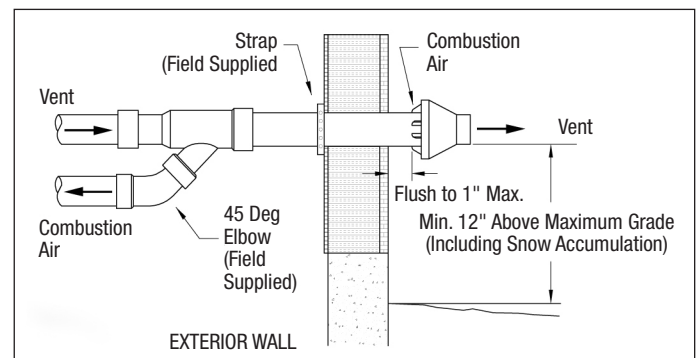
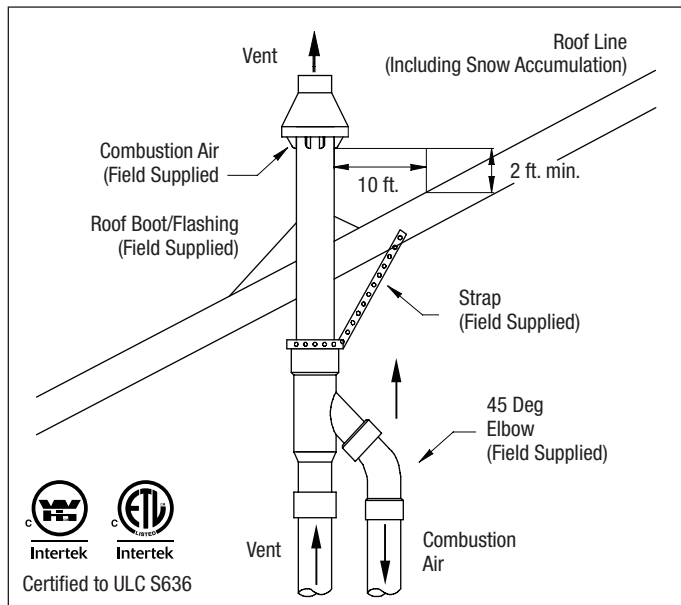

Figure 1.
Figure 2.
- Determine the best location for the termination kit. See Figures 1 and 2 for horizontal and vertical vent termination. For side (horizontal) termination, the following should be considered:
- Secure the assembly to the structure as shown in Figure 1 or Figure 2 using field supplied metal strapping or equivalent.
- Ensure the termination height is above the roof surface or anticipated snow level as shown in Figure 2 for vertical termination.
- Ensure the termination location clearance dimensions are as shown in Figure 1 for horizontal termination.
- Cement the furnace combustion air and vent pipes to the concentric vent termination assembly. See Figure 1 or Figure 2 for proper pipe attachment.